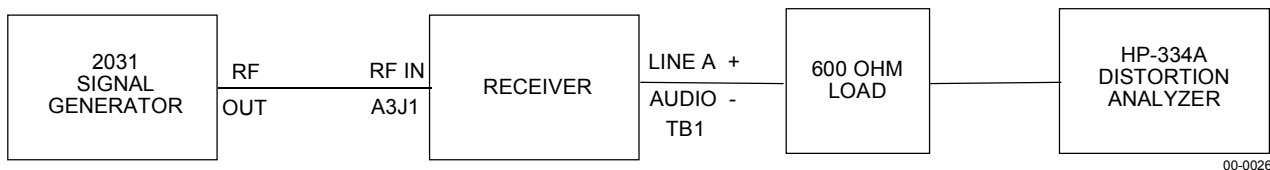

Figure 7-6. Audio Distortion Performance Test Equipment Connection
1. Connect the WJ8711A Receiver and test equipment as illustrated in **Figure 7-6**.